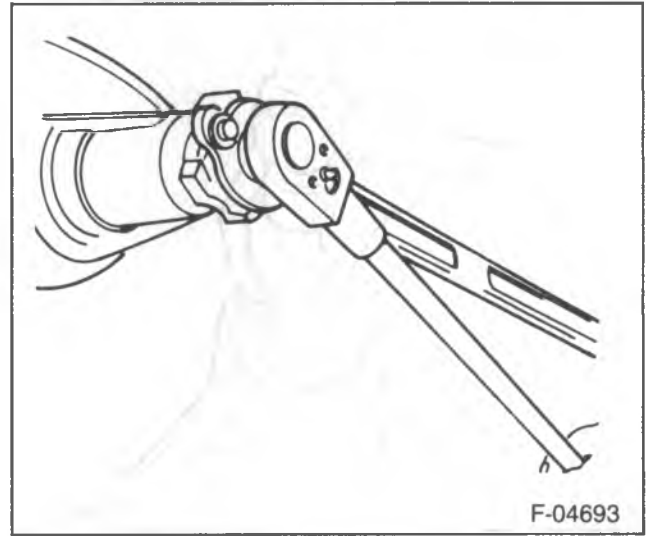

Figure 12—Removing the Drive Pinion Nut
- 16. Pinion nut (12) and washer (11) using J 8614-01 to hold the pinion (figure 12).